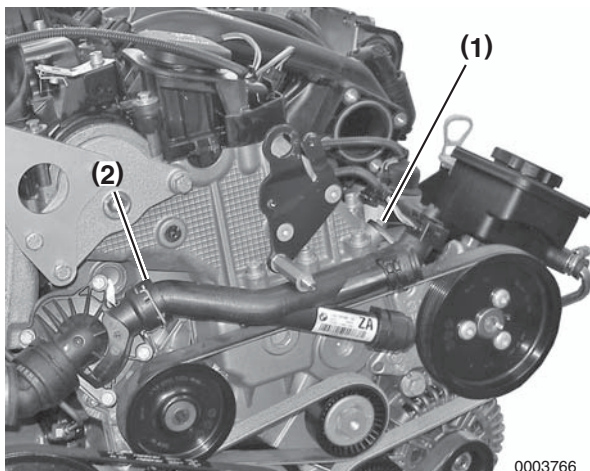

Figure 5-12
13. Remove oil cooler return pipe screw (**Figure 5-12, (1)**).
14. Release the locks and disconnect coolant return pipe (**Figure 5-12, (2)**). See *Disconnect and Connect Quick-Connect Fittings* on page 7-11.